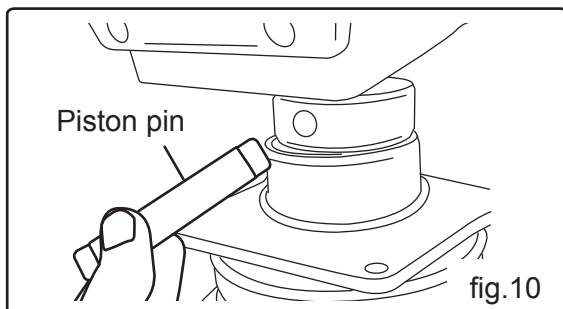

fig.10
B. Lift the crankcase and separate the connecting rod and the piston rod by removing the piston pin (1). (fig.10)